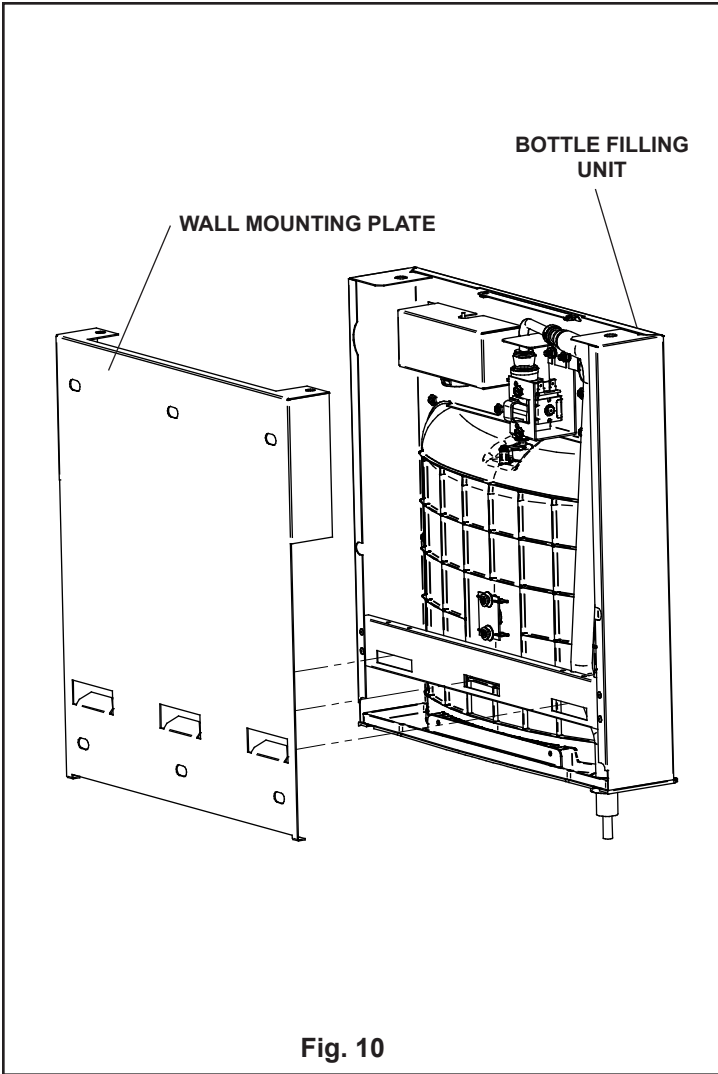

Fig. 10
- 8) With the power cord and waterline through hole on top of water cooler place Bottle Filler on the three (3) angled tabs protruding from the wall mounting plate installed on wall. Make sure round boss in gasket fits in hole of basin. (See Fig. 10).
- 9) Once Bottle Filler is installed on wall plate tabs, water line and power cord are installed properly, push top of Bottle Filler toward wall and line up top cover two (2) holes.